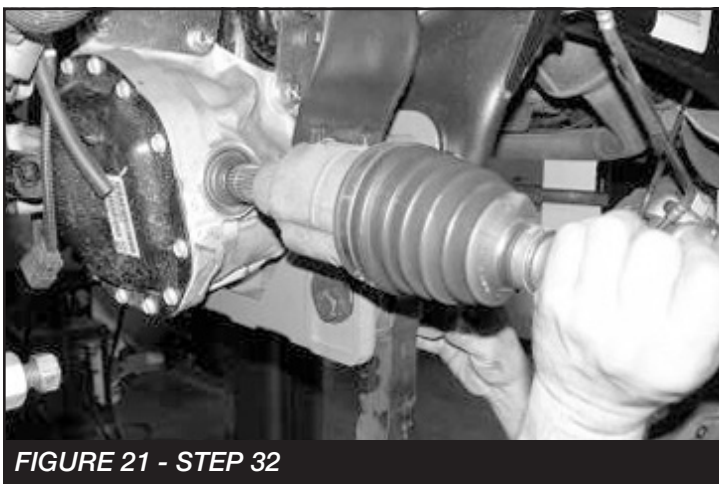

FIGURE 21 - STEP 32
32. Install the C.V. half shaft back onto the differential by pushing the half shaft onto the splines until the snap ring locks. **SEE FIGURE 21**